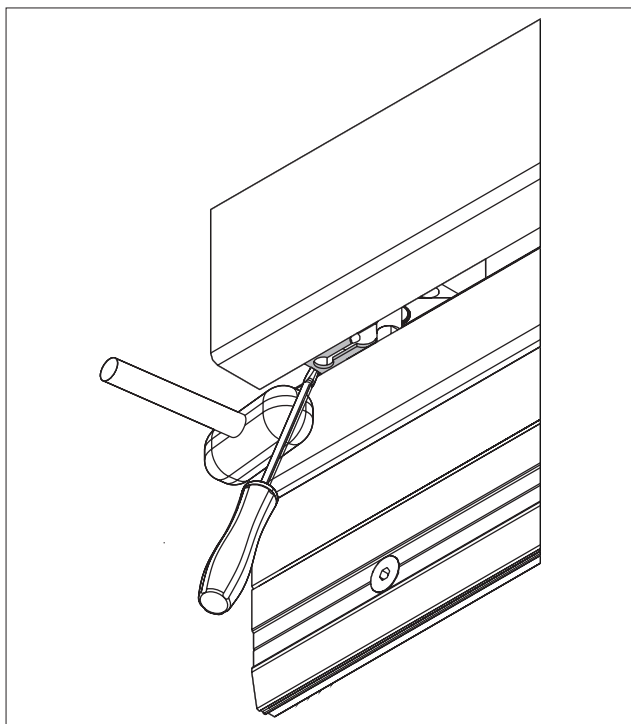

Fig. 26 Attach the washer
4. Laterally snap the washer over the bolts using a plastic hammer and a flat-head screwdriver (Fig. 26).